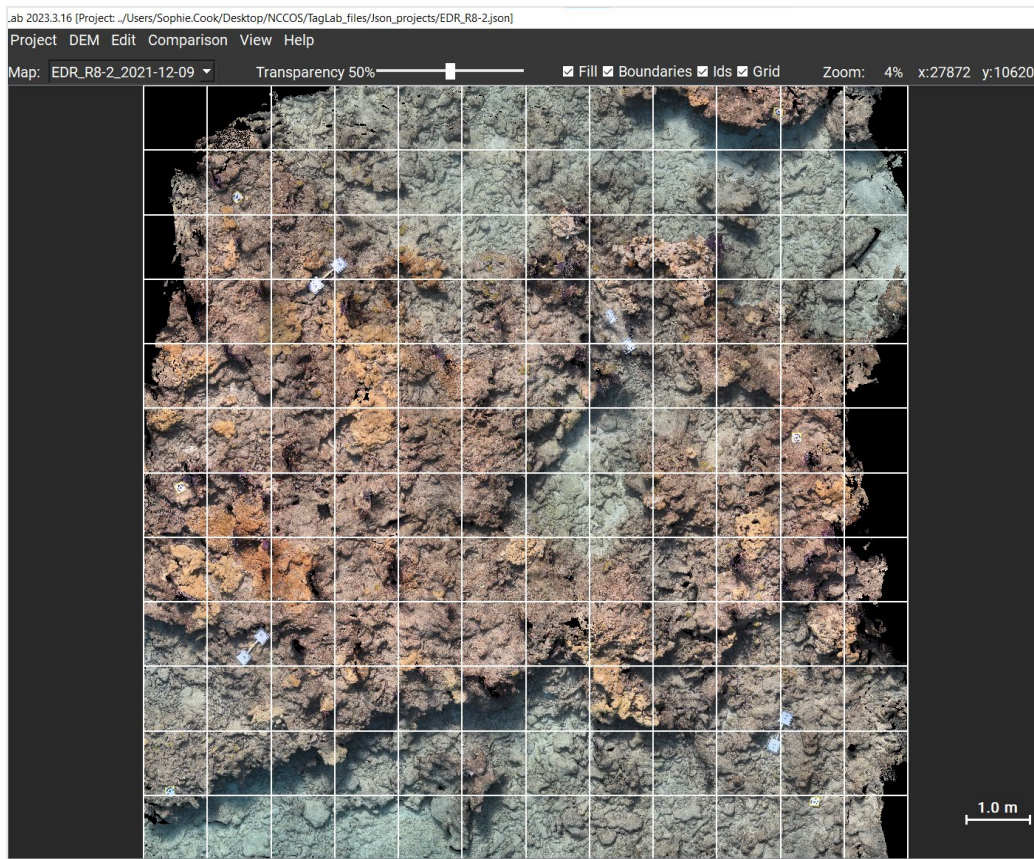

Figure 145. Example of correct grid placement. Note how the grid encompasses the entire map.
3. A 12 x 12m will be generated, with a one cell (each 1-m2) buffer around the core study area where percent cover was also estimated (*Section II. Viscore*). The grid should take up the entire map if the orthoprojection was exported with the correct resolution in Viscore (Figure 145).